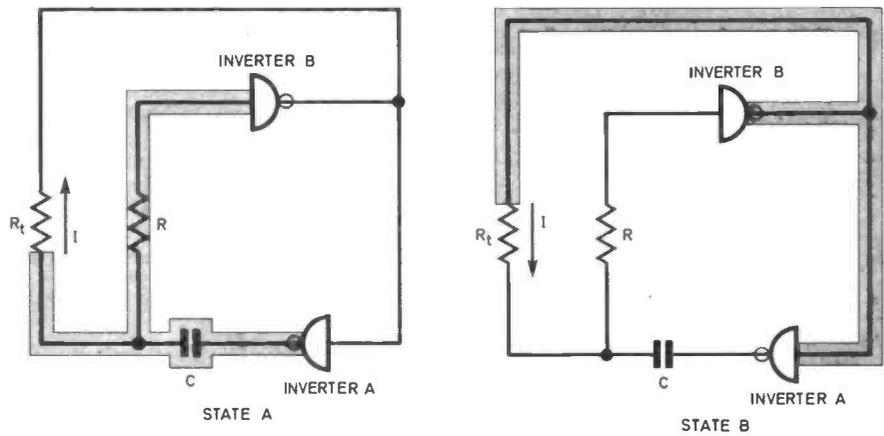

Fig. 3. The operation of the oscillator circuit composed of two CMOS inverter gates.
**Fig. 3.** Use of the power slaves in a pop group PA system incorporating a multichannel mixer; (a) 100 watt, (b) 200 watt, (c) 200 watt main channel with 100 watt foldback system.
The oscillator is needed to make the lamp flash. In a simpler form its action is shown in Fig. 3.